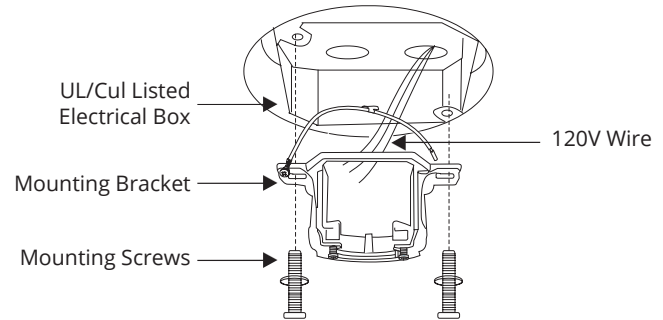

FIG.6
2. Pass the 120-volt supply wires through the center hole in the mounting bracket as shown (FIG.6).